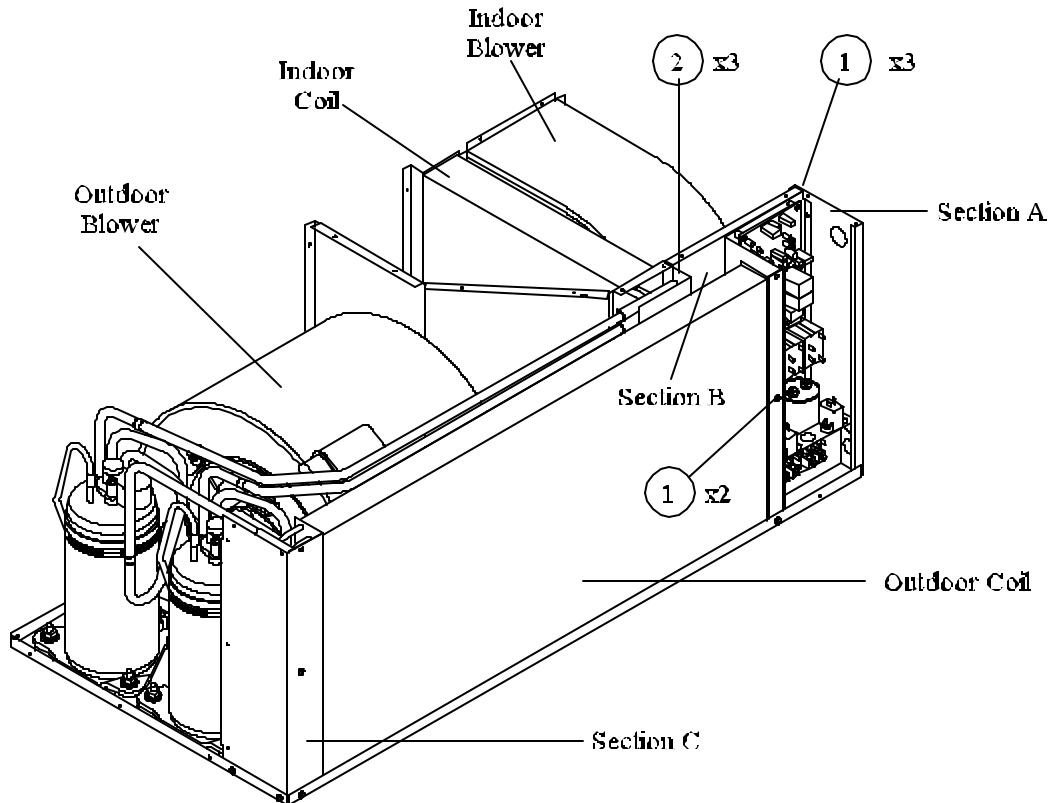

FIGURE 11
2. Remove Section C (See Figure 11).
Note: Upon reassembly, the references made on Figures 11 and 12 shall be used for proper reassembly. The assemblies shall be secured with wire ties in order to prevent excess chafing and vibration.
- Note: Upon reassembly, the references made on Figures 11 and 12 shall be used for proper reassembly. The assemblies shall be secured with wire ties in order to prevent excess chafing and vibration. If additional sealant is needed to seal coil header to drain pan (notched end), a silicone or perma-gum sealant is adequate. Do not use solvent base sealers that would harm the ABS plastic drain pan.
3. Remove corner panel (See Section C, Figure 11).